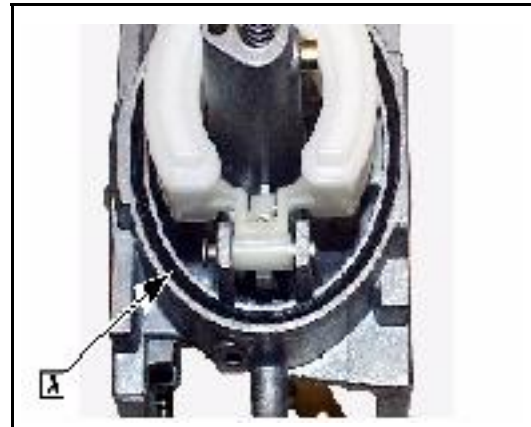

Fig. 48
21. Install float bowl gasket ([A] Fig. 48) to carburetor body groove.